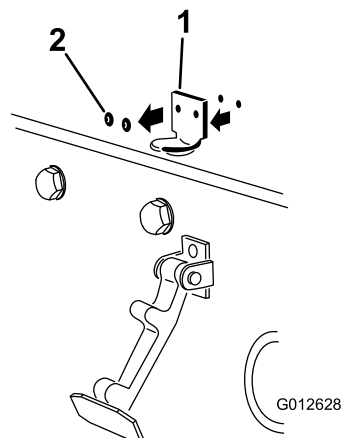

Figure 3
2. Remove the (2) rivets securing the hood latch bracket to the hood (Figure 3). Remove the hood latch bracket from the hood.